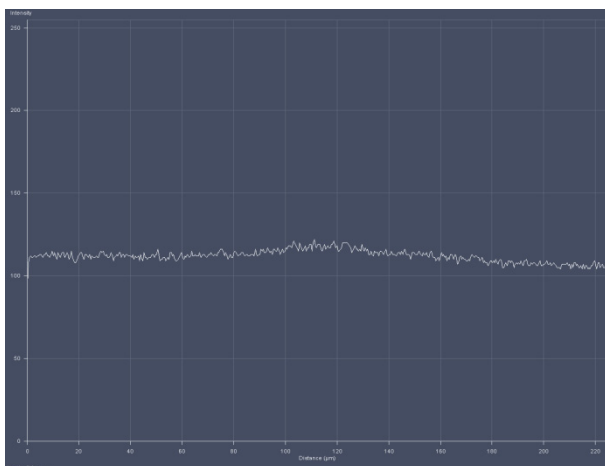

**Fig. 308** Selection of Line Scan diagram
- Press **Continuous** to start a continuous scan. Press the **Line Scan** tab (Fig. 308).